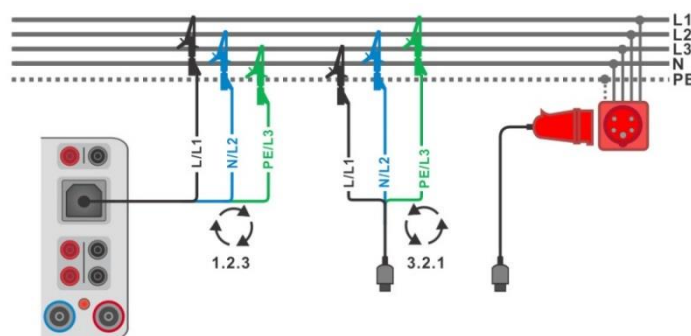
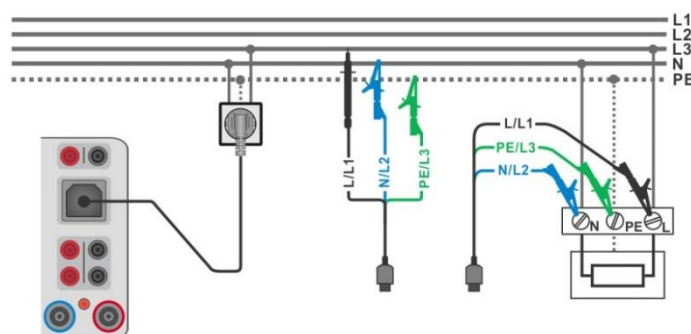

Figure 6.62: Connection of 3-wire test lead and optional adapter in three-phase system
Figure 6.63: Connection of Plug test cable or 3-wire test lead in single-phase system
- › Connect 3-wire test lead or Plug test cable to test object (see **Figure 6.62** and **Figure 6.63**).